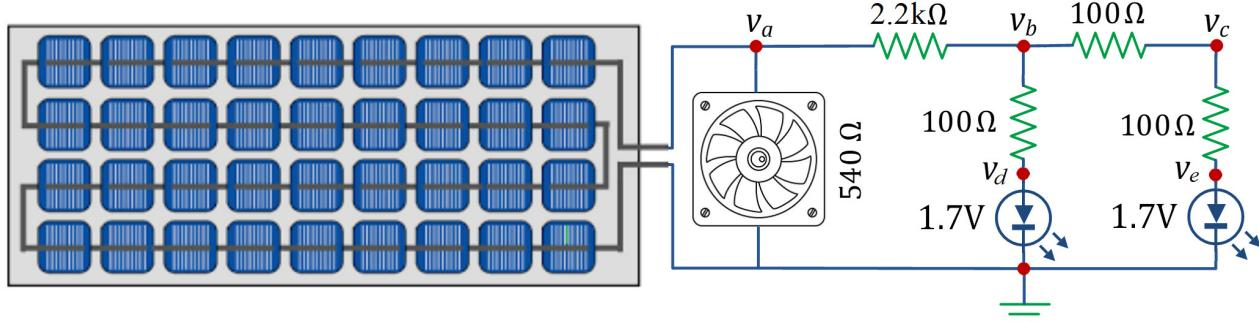

Figure 3.9. Circuit of solar powered fan with 2 LED lights for pet house.
**B.10** Build the circuit of Figure 3.9 on your prototyping board and measure the nodal voltages  $v_a$  to  $v_e$ . Record all your results in the Table below.